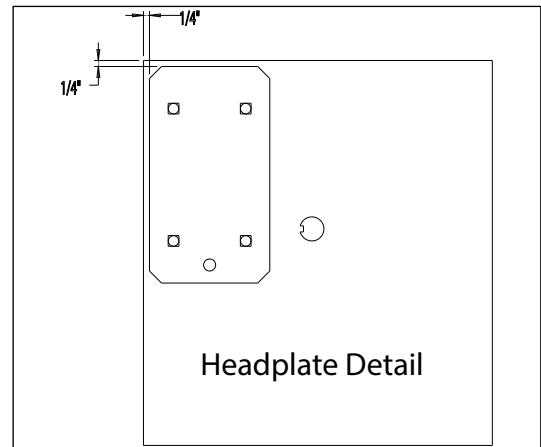

Fig. 13
1. Weld the door plate assembly (provided) to the door headplate, A minimum of two 1" weld beads are required on each side of the weld plate for proper attachment. See Fig 13 for proper placement.